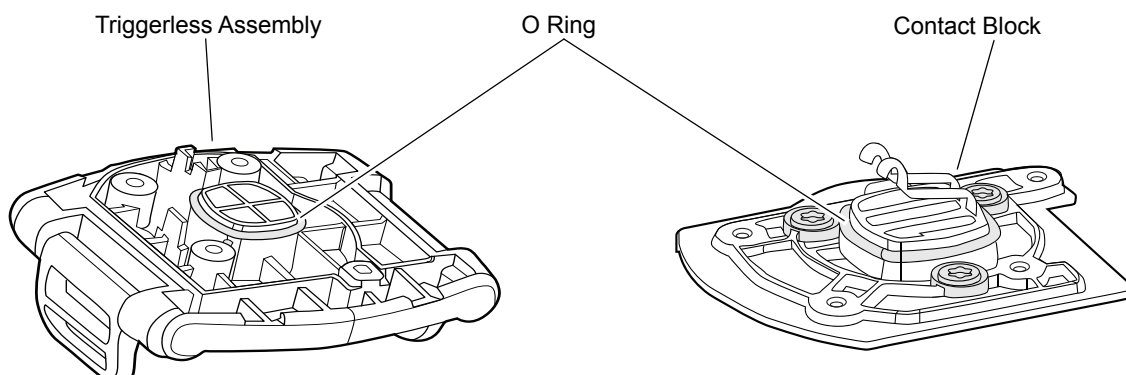

Figure 10-8 Transfer O Ring
5. Remove the O ring from the contact block and install it on the Triggerless Assembly. See Figure 10-8.